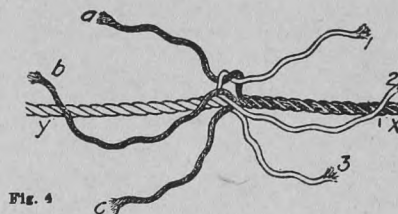

Fig. 4
Fig. 4 shows how the stitching is done, with the two ends of strap held in place by the clamp.
If there is a straight pull and the rope doesn't have to pass through a pulley, a short splice will do. The steps in making this splice are shown in (figs. 3, 4, 5 and 6). The two ends are unwound and then locked together so that those from one end pass alternately between those from the other end. Taking two strands from opposite sides, (a) and (1), (fig. 3) tie a simple knot (fig. 4). Repeat with (b) and (2) and with (c) and (3). Draw the knots tightly, then passing each strand of the rope diagonally to the left, tuck the ends under the strands of rope (y). Then turn the rope end for end and repeat by splicing down the strands of rope (y) (fig. 5). When the splice is completed each strand from both ropes should be spliced under at least two places, depending on the size of the rope and the strain it has to carry. The splice can be made, of course, without